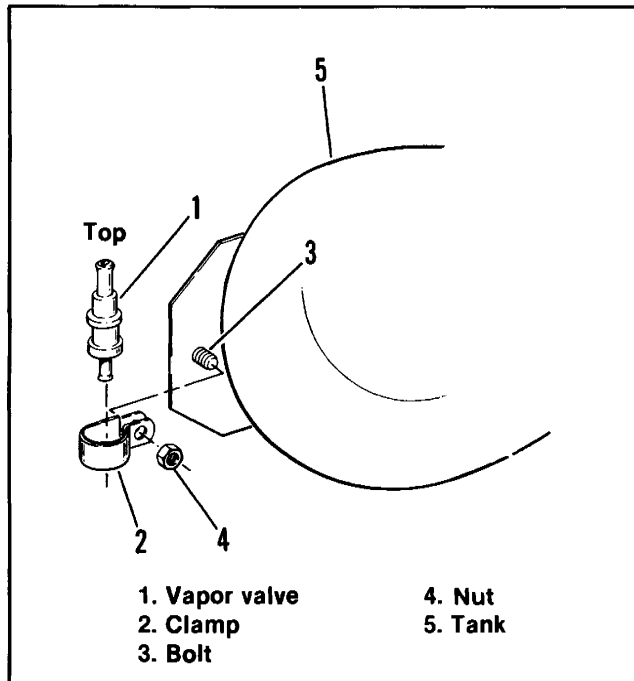

Figure 4-38. Vapor Valve Mounting
Vapor Valve (Figure 4-38)
The vapor valve is mounted in clamp (2) with valve right side up (longer fitting upward) as shown in Figure 4-38.